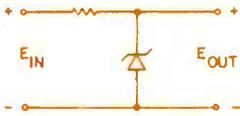
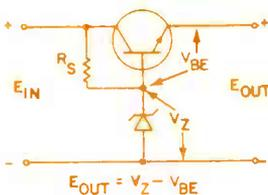
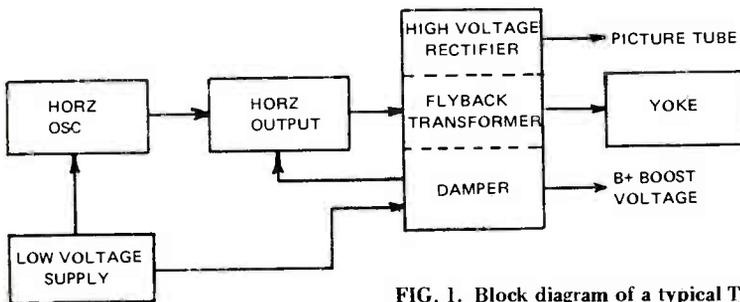

Fig. 2. Basic Zener diode shunt regulator.
Fig. 3. Emitter-follower transistor used to increase current-handling ability of Zener diode.
FIG. 1. Block diagram of a typical TV power supply system.
Fig. 2 shows a Zener diode connected as it is most frequently seen: in a shunt regulator circuit. The purpose of such a circuit is to maintain a constant dc output voltage, regardless of fluctuations in load current and supply voltage. Volt-
age regulation is not needed in all types of equipment, but it is often a necessity for stable circuit performance. The important thing to notice about the circuit of Fig. 2 is that reverse bias voltage is being applied to the diode. Note that the cathode is connected to a positive voltage source, while the anode is connected to the negative side of the
Although the Zener diode makes a very good shunt regulator, it cannot act alone. The series resistor in Fig. 2 plays a very important role in the action of the basic shunt regulator circuit. If this resistor is not present, when the input voltage rises a very heavy reverse current will flow in the Zener diode. It will soon burn out, and the output voltage will then rise to the same high level as the input voltage. To keep this heavy current from passing through the Zener, the series resistor is needed. Its value is determined by using Ohm's Law. Since the input voltage and output voltage are known, the voltage across the resistor can be calculated by subtracting the output from the input. The current through the Zener is known, so we can calculate the resistance of the series resistor ($R = E/I$). In addition, the formula $P = E^2/R$ can be used to find the power to be handled by the resistor. In practice, a resistor is selected which has at least twice as high a dissipation rating as the actual amount of power to be dissipated. This will result in cool, reliable operation.
Since the amount of current available for the load without lowering the output voltage is limited by the current-handling ability of the Zener diode employed, the output current capability can be increased by using a Zener with a higher power rating. Unfortunately, high-power Zener diodes are rather expensive. Fig. 3 shows a more satisfactory way of providing heavier currents. Here the Zener diode is used to regulate the voltage at the base of the series-pass transistor, and the transistor, in turn, regulates the amount of current passed through the load. In effect, the resistance between the collector and emitter of the transistor is varied to maintain a constant output voltage. If the output voltage falls because of an increase in load current, the
In the circuit shown in Fig. 3, the current passed by the Zener is roughly equal to the output current divided by the Beta (current gain) of the transistor. The output voltage is equal to the Zener voltage minus the base-emitter voltage drop of the series pass transistor. If a silicon transistor is used, and this is nearly always the case in modern equipment, the base-emitter voltage drop is about .7 volt, so the output voltage will be about .7 volt less than the Zener voltage.
voltage changes. In fact, under the proper conditions (Fig. 2 or Fig. 3, for example), the Zener makes an excellent filter capacitor. Modern circuits frequently use small, efficient, Zener diodes to replace bulky and expensive electrolytic capacitors.
2. The circuit shown in Fig. 3 is used to match the impedance of a large power Zener to a power supply circuit.
A block diagram of the circuitry developing the raster in a TV receiver is shown in Fig. 1. A typical schematic is shown in Fig. 2. A failure any place in this chain will cause the face of the picture tube to be completely dark. To service a no raster complaint by the instructions in this article, you must know how the circuits work.
The purpose of the circuit in Fig. 2 is to produce high voltage for the second anode of the picture tube and at the same time develop a varying magnetic field in the yoke. This magnetic field will sweep the electron beam from the picture tube gun back and forth across the fluorescent screen of the tube, causing it to light up. This action will produce a thin horizontal line on the face of the tube. The vertical sweep, which will not be considered here, moves the beam up and down to produce the complete raster.
Fig. 2 shows the power supply, horizontal oscillator (8FQ7), horizontal output tube and damper (38HE7), flyback transformer T3, horizontal yoke, and the high voltage rectifier tube V10 (1K3).
Looking at Fig. 1 we can sum up the action as follows: The low voltage supply furnishes dc voltage to the horizontal oscillator, horizontal output and damper tubes. If sound is obtained, you know that the low voltage supply is OK. If not, check for an open fusible resistor (R64 in Fig. 2B.)
While this is only a rough outline of the action taking place in Fig. 2, you can imagine defects other than those mentioned which would prevent formation of the raster. With no raster present, you want to know if the chain in Fig. 2 is working to produce the required high voltage. First you want to see if low dc voltage is available. The presence of the audio portion of the program is proof that low voltage exists. If there is no sound, remove a suitable tube and check from the chassis to one of its electrodes normally receiving low voltage. When locating the tube socket pin holes from the top, remember to count in a counterclockwise direction from the key spacing of the socket – opposite to the direction for locating pins on the base of the tube.
Next unbutton the shield hiding the high-voltage rectifier. A strong glow should exist around the tube envelope because of the high voltage being applied for rectification. If this is present, try a new rectifier tube and check for anode picture tube voltage. If the voltage to be rectified is present and the tube is OK but there is no high voltage, look at the schematic in Fig. 2 to see what might be wrong. R60, if open, would prevent voltage from being applied to the rectifier filament. R63, if open, would prevent high voltage from appearing at the picture tube second anode. With the set turned off and V10 removed, locate the filament socket holes and check between pins 2 and 7 with an ohmmeter. Lack of continuity shows an open R60. Next measure the resistance from the anode lead of the picture tube to pin 2 of V10. There should be about 4.7k ohms present. Both resistors are under the base of the socket and can be replaced without too much trouble.
Fig. 2 is a Philco chassis 17C21. It is used in this article because it was pulled for a set I was working on. You may be interested in the case although it has nothing to do with the purpose of this article. The customer said the set developed a mess of horizontal lines. Sure enough, it lost sync in a short time. This was fixed by adjusting the ringing coil, L19, and I left the set to cook before releasing it as fixed. Much to my dismay it developed a real mess of horizontal lines without losing horizontal sync. I then noticed that by adjusting the fine tuning I could make a ghost appear. I tried new tubes in the tuner and the video i-f amplifier. No soap! The trouble seemed to be i-f oscillation; the fine lines looked just like an interfering signal near the i-f frequency. A change in value of an i-f cathode resistor or an open in a bypass somewhere in the i-f amplifier would do this. Rather than fool around, I decided the i-f tuning was off and forming the wrong i-f wave shape.
Now to an actual case of no raster to see how it was handled. The circuit in question was an RCA chassis KCS97 shown in Fig. 3. If you are familiar with TV, you can tell that this is an old set by the type of horizontal oscillator and the magnetic focusing and ion trap on the picture tube. Before doing anything else, I checked the picture tube because of the age of the set. The base of the tube was cracked to pieces and held together with tape. The tube tested weak, but one touch of rejuvenation with the old CRT tester fixed that. However, still no raster.